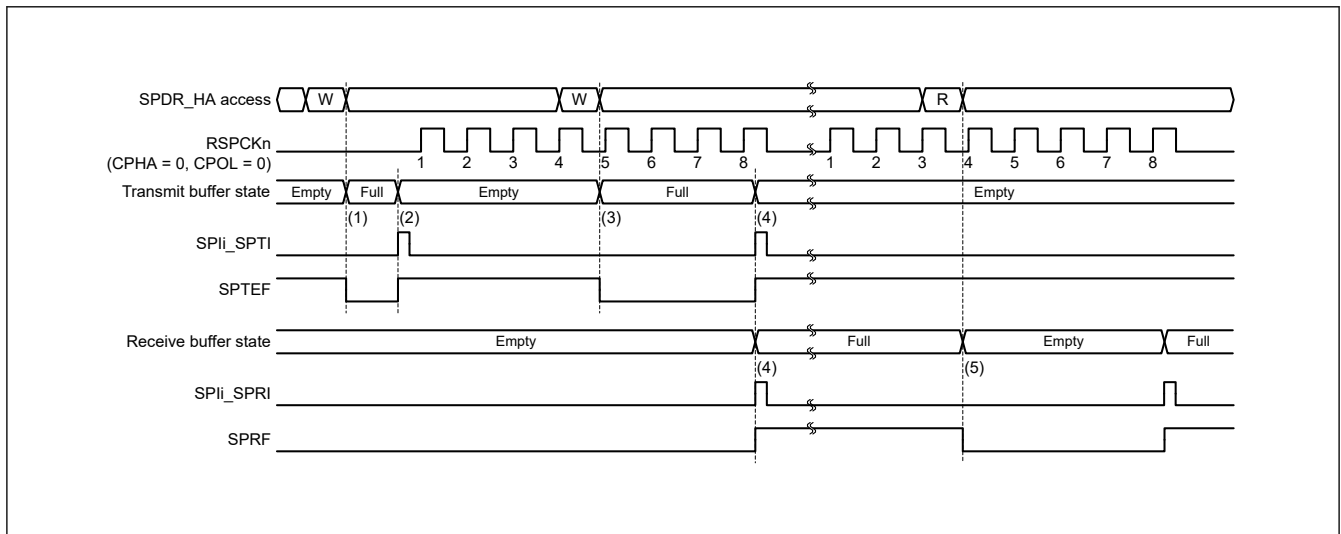
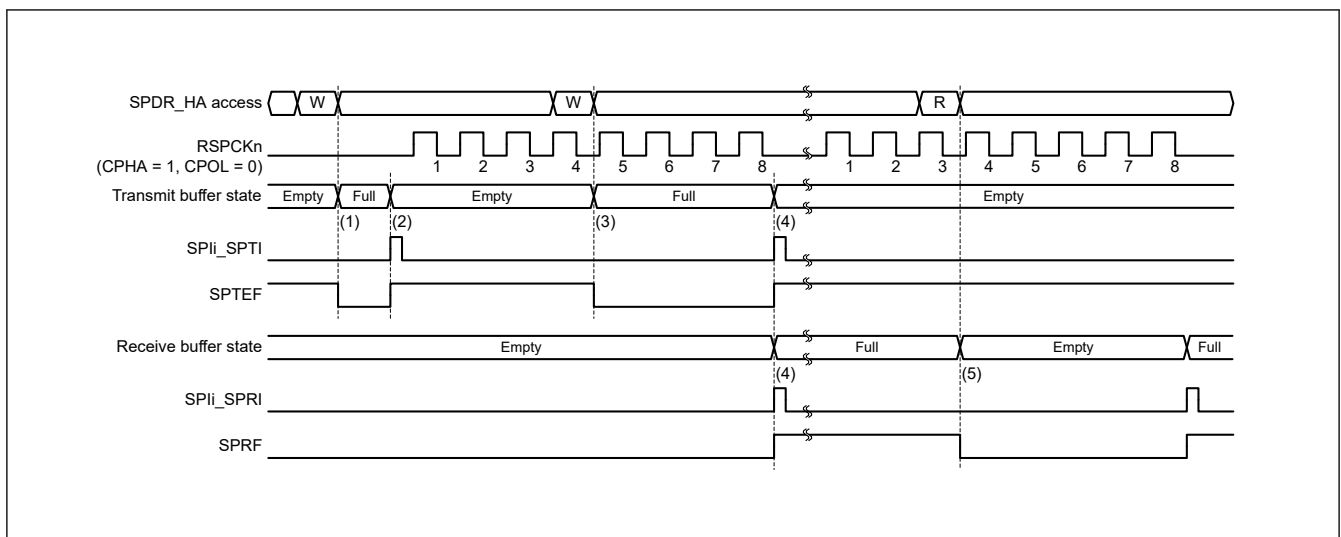

Figure 30.29 Operation example of the SPIi_SPTI and SPIi_SPRI interrupts when CPHA = 0 and CPOL = 0 in master mode
Figure 30.30 Operation example of the SPIi_SPTI and SPIi_SPRI interrupts when CPHA = 1 and CPOL = 0 in master mode
Figure 30.29 and Figure 30.30 show examples of operation of the transmit buffer empty interrupt (SPI_i_SPTI) and the receive buffer full interrupt (SPI_i_SPRI). The SPDR_HA register accesses shown in these figures indicate the conditions of access to the register, where W denotes a write cycle and R a read cycle. In Figure 30.29, the SPI performs an 8-bit serial transfer when SPCR.TXMD bit is 0, the SPDCR.SPFC[1:0] bits are 00b, the SPCMDm.CPHA bit is 0, and the SPCMDm.CPOL bit is 0. In Figure 30.30, the SPI performs an 8-bit serial transfer when SPCR.TXMD bit is 0, the
The operation of the SPI at timings (1) to (5) in Figure 30.29 and Figure 30.30 is as follows: